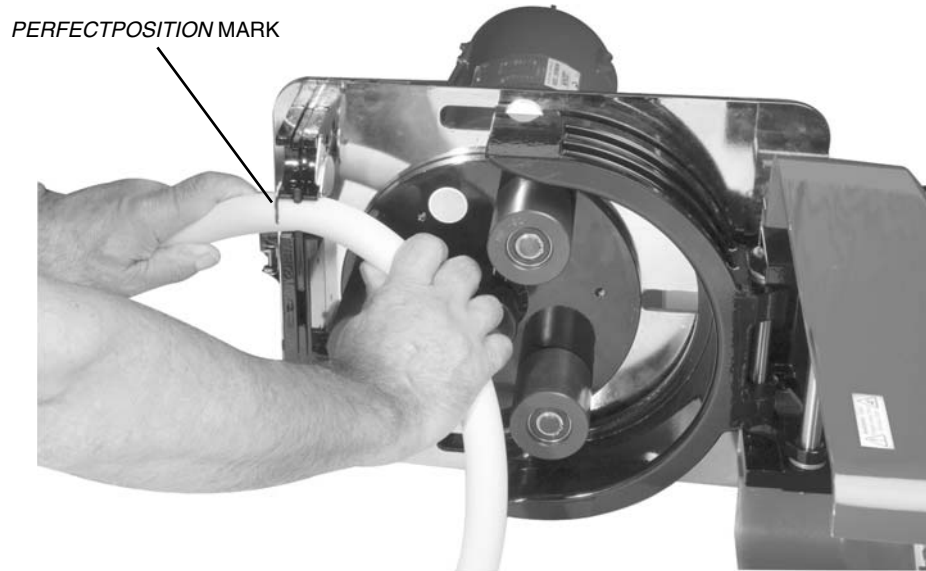

Figure 2. TUBING RETAINING POCKETS
3. Insert the tube in the appropriate upper tube retaining pocket (see Figure 2). Line up the "*PERFECTPOSITION*" placement marks printed on the tube with the outside edge of the retainer assembly (see Figure 3).